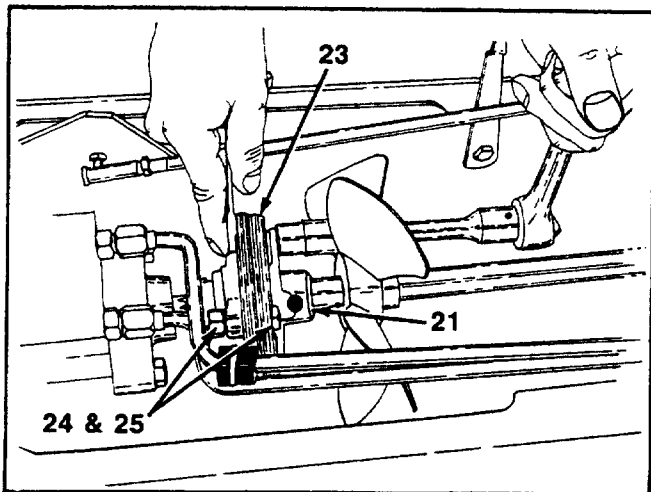

FIGURE 16.
19. Remove the two hex nuts and hex bolts at rear coupling and flexible disc. See figure 16.